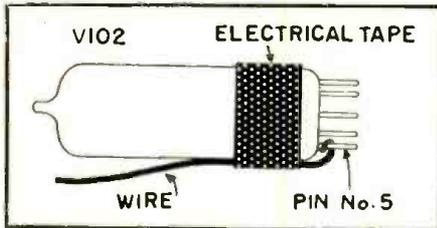

Fig. 8. A convenient method for applying alignment signal to mixer-oscillator.
**Procedure:** The i.f. alignment procedure is shown in Table 2. Before beginning alignment place the station selector between channels to disable the oscillator, and remove fuse  $F_{201}$  to disable the sweep circuits. A convenient method of connecting the signal generator to the mixer-oscillator tube,  $V_{102}$ , is shown in Fig. 8. Twist one end of a short length of wire around pin 5 of the tube and attach the wire to the tube envelope with electrical tape.